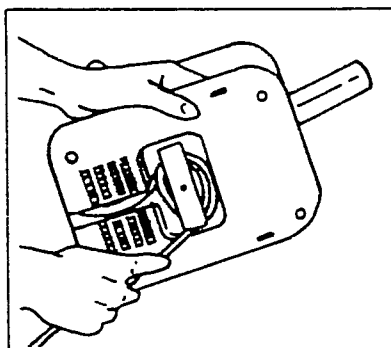

Figure 1
1. Wash in soapy water...rinse and dry thoroughly all removable parts...FILTER HOLDER (B) ...FILTER (C)...CARAFE COVER (D) ...CARAFE (E).
2. Adjust the cord to the desired length (See Fig. 1) and making sure the ON/OFF SWITCH (I) is in the "OFF" position...PLUG (N) the machine into an outlet.
The cord can be stored beneath the unit. To adjust the length...simply unwind only the amount needed to reach the outlet. (See Fig. 1).